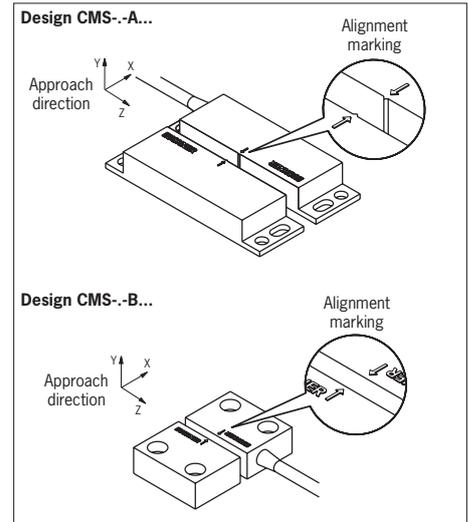

Fig. 1: Alignment of read head and actuator
The read head and actuator may be installed in any position. The alignment of the read head and the actuator must be kept in mind (see Fig. 1).
- ▶ when the guard is closed, the active read head and actuator faces are exactly aligned (see Fig. 1)
- ▶ If the approach speed between the read head and the actuator is low, the approach direction Z (see Fig. 1) should be avoided.